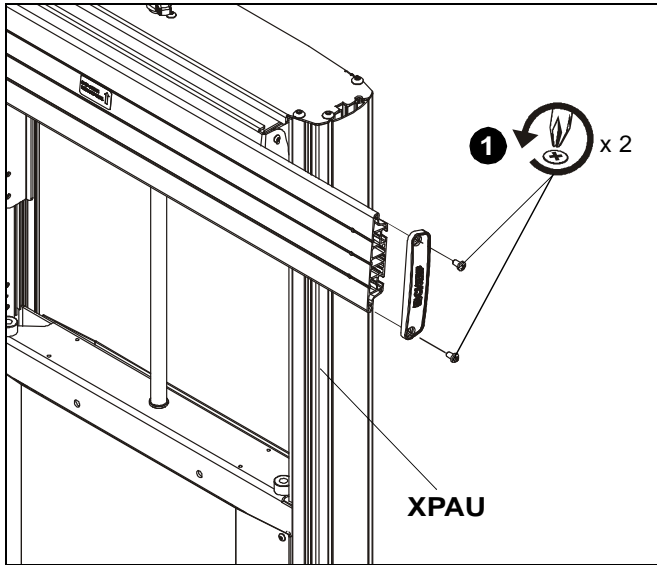

Figure 1
1. Remove two Phillips screws and right side cover from right side of XPAU interface head assembly. (See Figure 1)